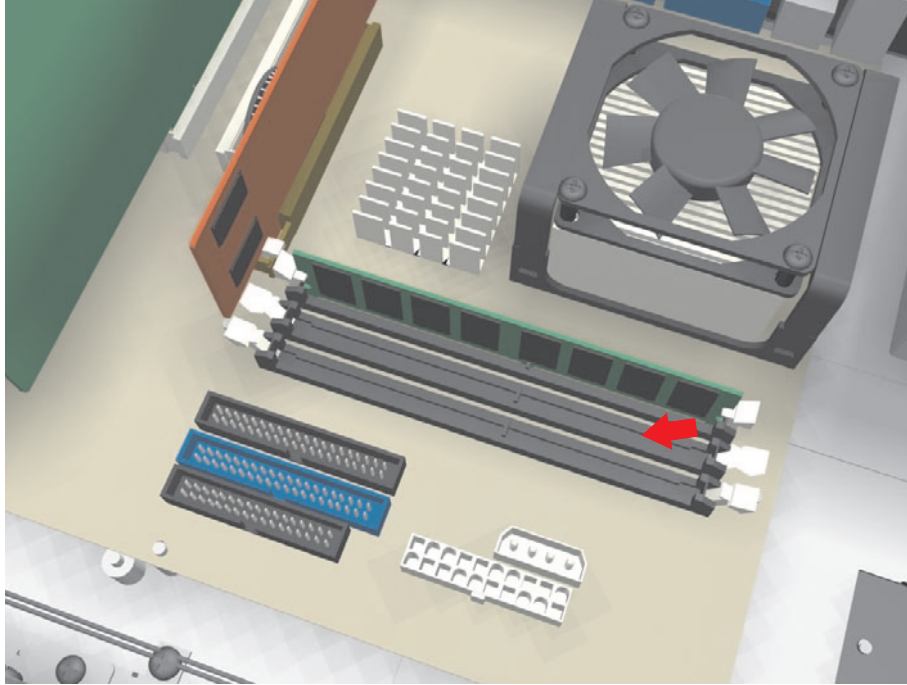

Figure 7. First Empty DIMM Socket
2. Locate the first empty DIMM socket. This socket is directly adjacent to the socket containing the existing DIMM module. Refer to Figure 7.